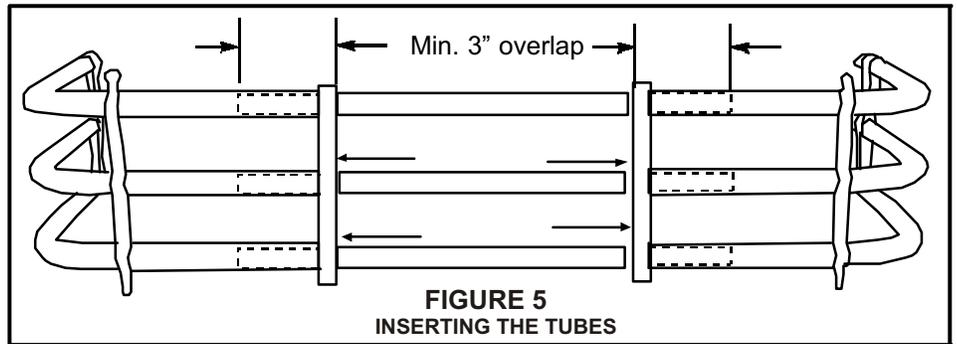

FIGURE 5
- STEP 6. Insert the tubes from the middle section into the curved sections. (See Figure 5)
- STEP 8. Adjust tubes so each side is inserted an equal amount. Insert wedges into wedge pockets in uprights. (See Figures 5 and 7)